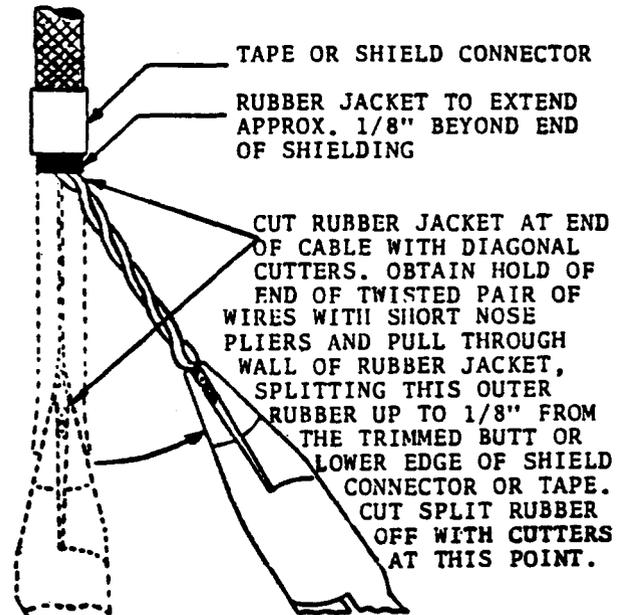

FIG. 2 REMOVING RUBBER JACKET - 720 CABLE (PAR. 4.13)
4.13 Remove the shield and rubber jacket as shown in Figure 1 and Figure 2, respectively.